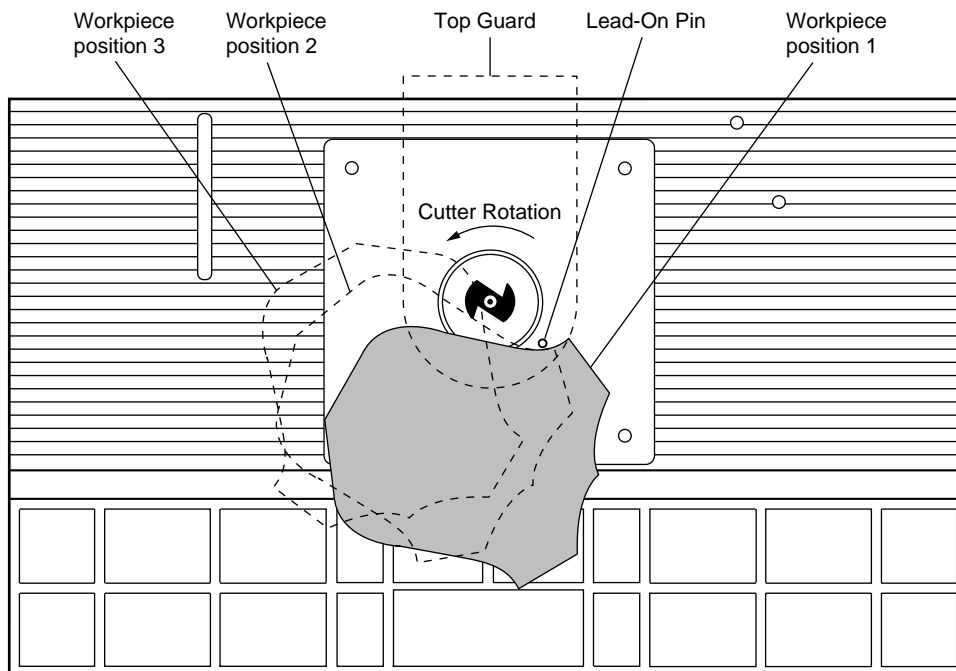

fig. Y.3
- a. Position the workpiece against the **Lead-On Pin** as shown in fig. Y.3. The Workpiece should not contact the cutter.